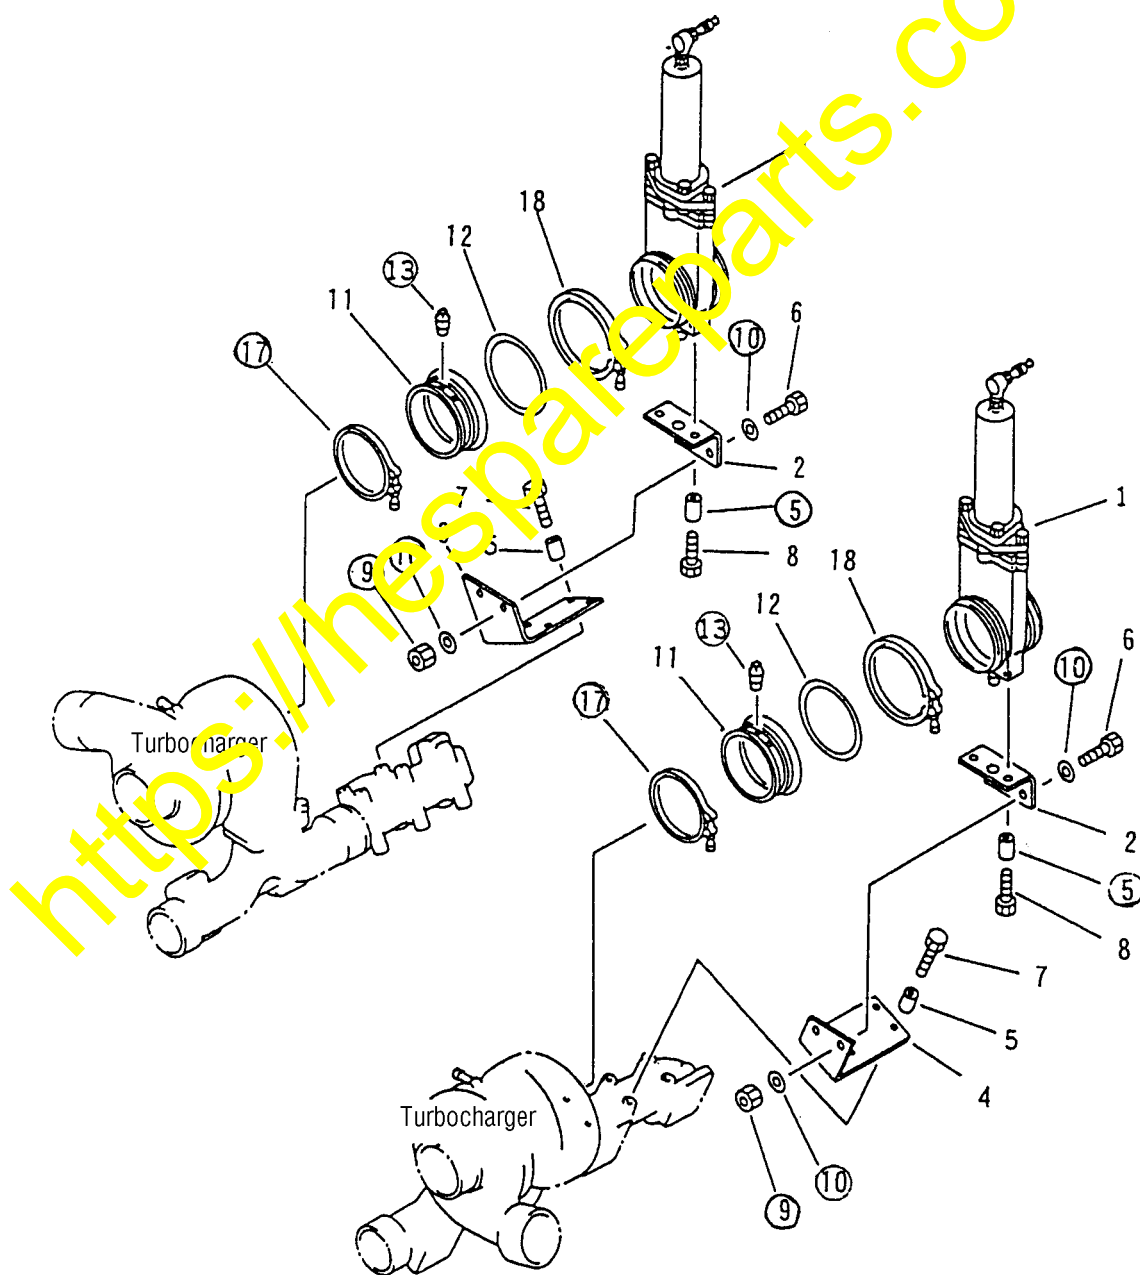

Fig. 1 Schematic diagrams for the engine parts which need to be removed for this modification
3-1. Installation of the engine related parts (Refer to Fig. 1, Fig. 2 and Fig. 3.)
(1) Removing parts which need to be removed for this modification (Refer to Fig. 1.)